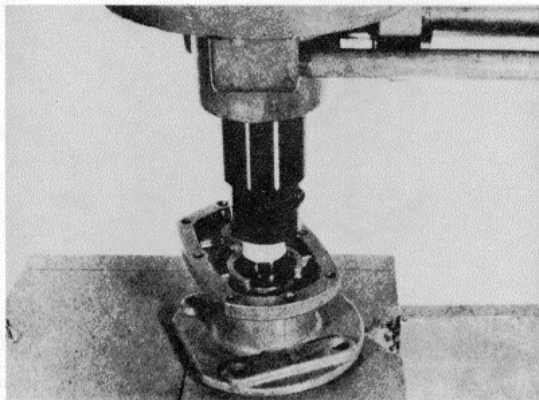

Figure 16G-41. Installing Drive Cover Oil Seal
3. Install ST-419 Assembly Tool over main shaft. Place snap ring between drive gear and bearing. Press main shaft assembly into front cover and through seals, Figure 16G-42. Secure snap ring in cover groove, Figure 16G-43.